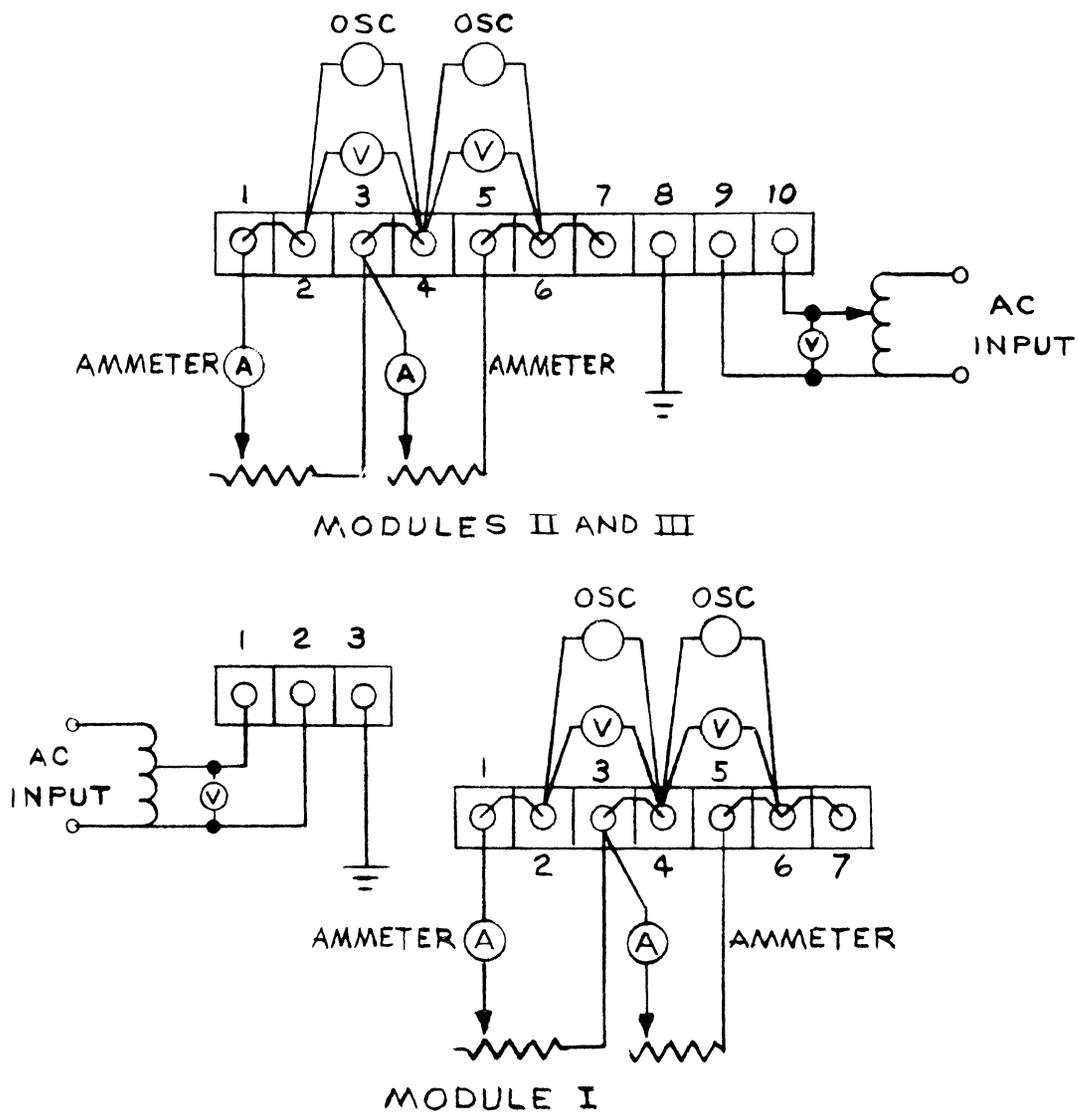

Figure 5-4 Test Equipment Setup
1. Connect a test set-up per figure 5-4. Set oscilloscope for 1 mV/cm vertical sensitivity and 10 ms/cm horizontal. The oscilloscope should have at least a 10-MHz bandwidth. Select a 0-150 Vac meter. Choose a 1-mv range for the rms voltmeter. Select a range for the dc ammeter compatible with the unit output rated current. Use a resistive load capable of fully loading the unit to rated maximum current.
1. Connect unit to test set-up per figure 5-4.